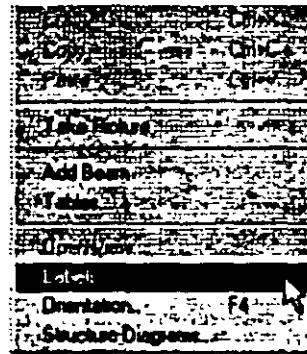

Figure 5.12
- In order to display the *node* and *beam numbers*, right click anywhere within the drawing area. In the pop-up menu that appears, choose *Labels* as shown in Figure 5.12.